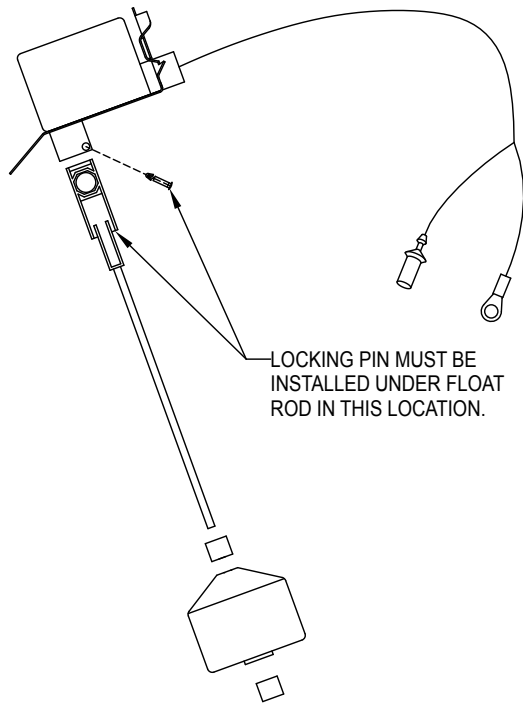

FIGURE 4
- (a) Check 15 amp fuse in line from pump to switch (see fig. 4). If fuse is blown, replace with 15 amp Littelfuse type 3AG, series 311.